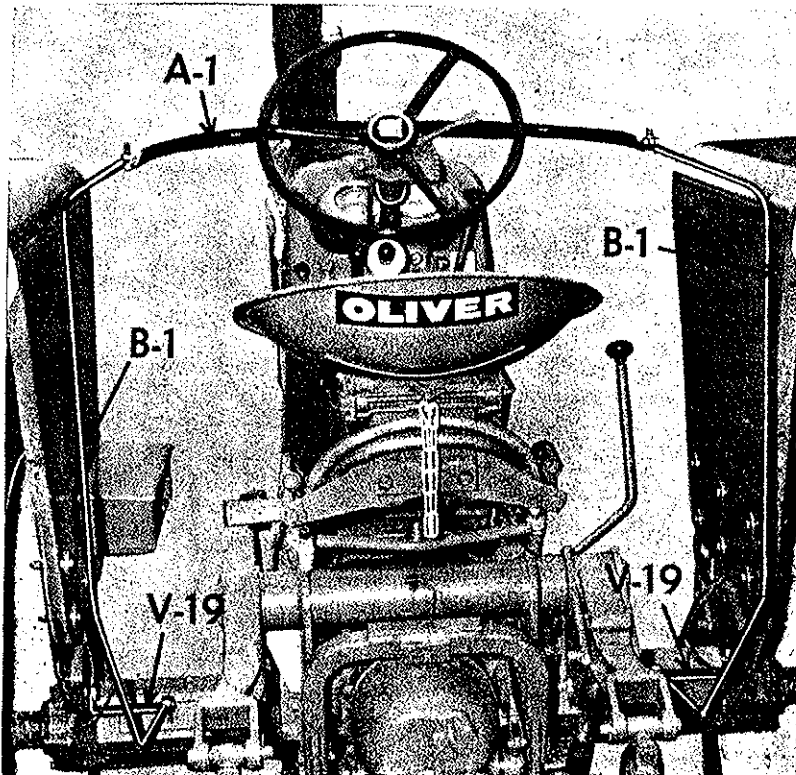

Figure 1
1. Bolt V-1 mounting bracket to steering column using U-bolt. See Figures 1 and 2. **DO NOT TIGHTEN TOO TIGHT.**
2. Bolt V-19 side arm brackets to axle brackets using $1/2" \times 1/4"$ hex head bolts. See Figure 1.
3. Insert B-1 side arms in wide hem on rear sides of canvas and the A-1 yoke in wide hem on top of canvas. Bolt B-1's to A-1 using $3/8" \times 1/2"$ hex head bolts and nuts. See Figures 1 and 2.
4. Place canvas over tractor and bolt A-1 to V-1 using $1/4" \times 3/4"$ hex head bolts. See Figures 1 and 2.
5. Bolt bottom of B-1's to V-19 brackets using $3/8" \times 1/2"$ hex head bolts and nuts. See Figure 1. Slide U-bolt up or down steering column until yoke is level, then tighten.